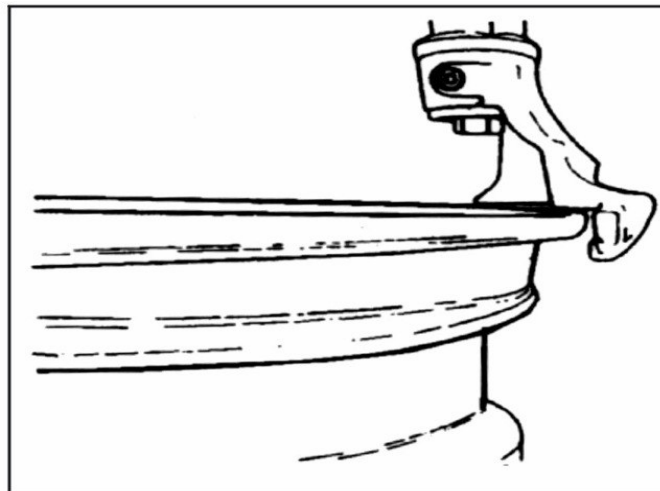

Fig 12
3. Set the vertical shaft to the working position, so that the mount/demount head is near the rim. The roller in the mount/demount head should be 2 mm from the rim to prevent scratching the rim. (Fig.12) Turn the lock lever to lock (automatic machine use locking handle 11 to lock the Fig .3)